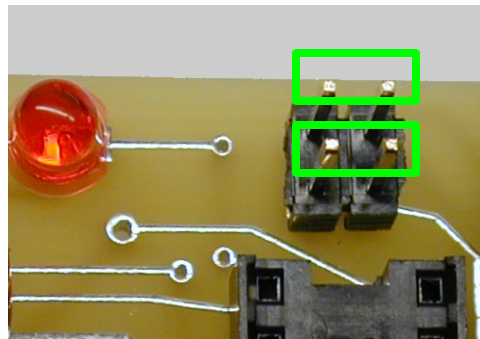

Figure 6: Cross-over jumper position
- b. To communicate with another RS232-SKP board (or to perform a null-modem crossover function), connect the jumpers horizontally on one board (as in Figure 6) and vertically on the other.